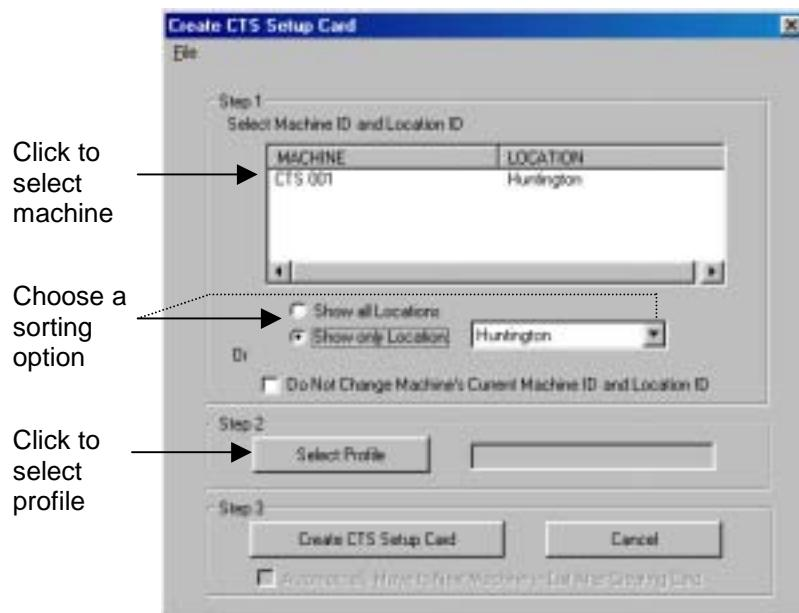

Figure 9.12 Cash CTS Setup Card Creation Steps
2. Select a Machine ID with a corresponding Location ID by clicking on it. There are two ways to view the machines in the database (Figure 9.12):
4. Click the Select Profile button (Figure 9.12).